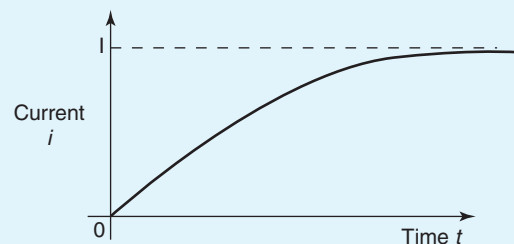

Figure 18.21
- The graph shown in Fig. 18.21 represents the growth of current in an  $L-R$  series circuit connected to a d.c. voltage  $V$  volts. The equation for the graph is: